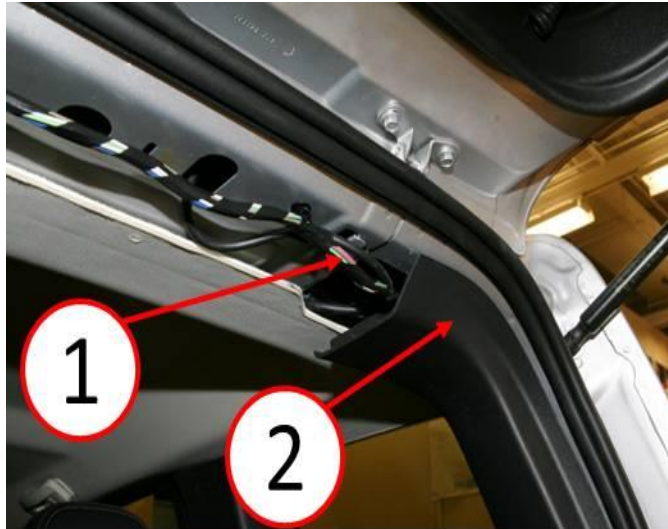

Fig. 1 Trim Panels - Right Side Shown
1. Open the tailgate and remove the headliner trim piece at the tailgate opening (1) and partially remove the interior quarter trim panel (2) where the waterleak is suspect (Fig. 1).